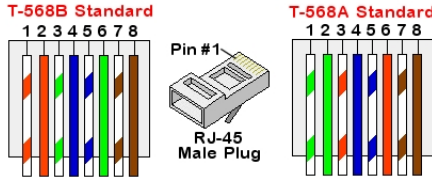

Figure 19: Standard cable wiring
- c. Insert the eight wires into an RJ45 connector, as described in *Figure 19*
7. For the switch/router side, use a pre-terminated cable or use a crimper to prepare an RJ45 communication connector: Insert the eight wires into the RJ45 connector in the same order as above (*Figure 19*).